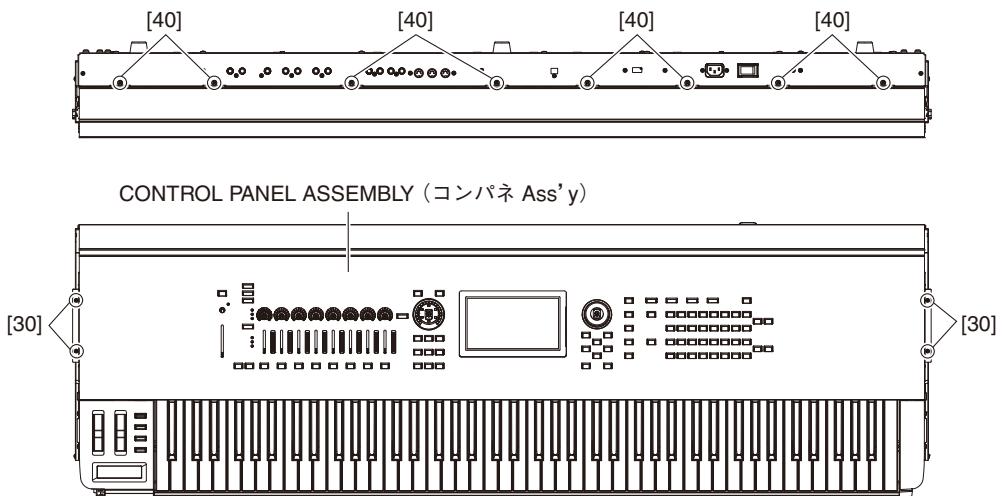

Fig. 3 (図 3)
2-2. Remove the four (4) screws marked [30] and the eight (8) screws marked [40]. The control panel assembly can then be removed. (Fig. 3)
2-2. [30] のネジ 4 本と [40] のネジ 8 本を外して、コンパネ Ass'y を外します。(図 3)